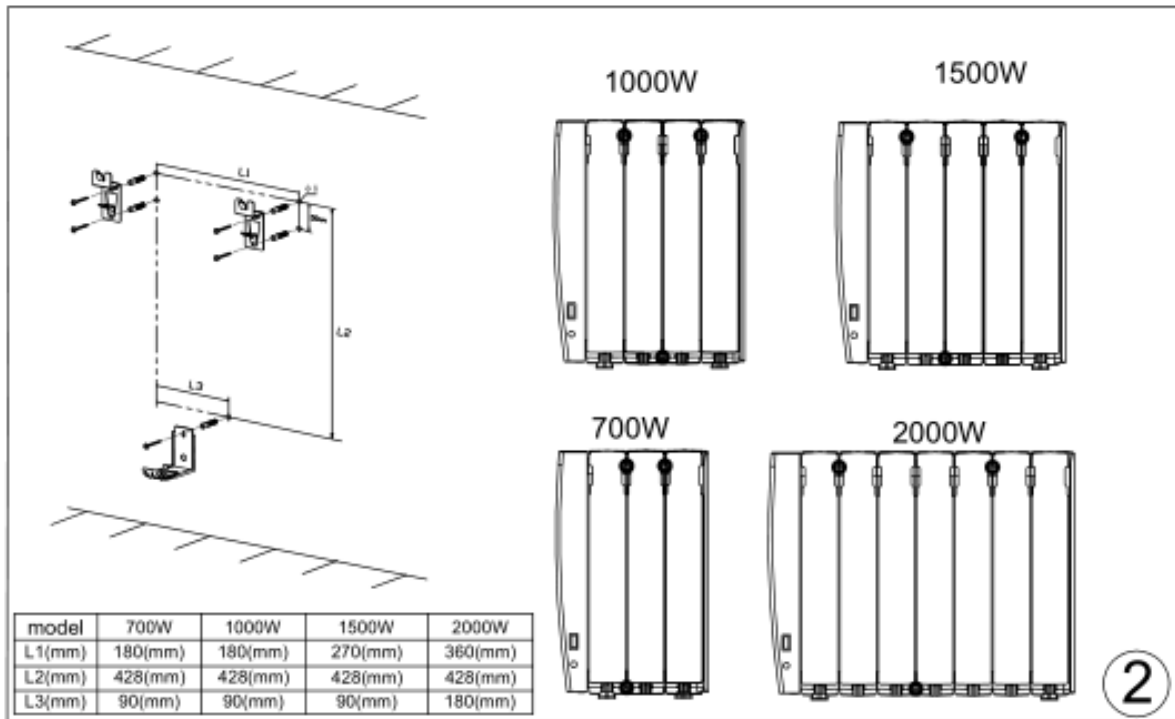

Figure 3 | Bracket positions on the radiator and wall
2. Using the template, mark the locations of the 5 drill holes required for your product size. Fit the wall plugs into the holes and use the wall mounting screws to fix the brackets in place as per Figure 3 below.